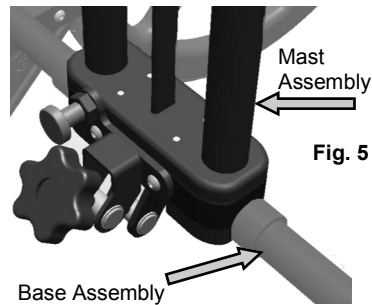

Fig. 5
- Place mast assembly over locator pins on base assembly (fig. 5). **Rotate locking pin until it engages into mast assembly.** Ensure that the mast pin is fully engaged and holding the mast firmly to the base. If the mast lifts up from the base, twist the retaining pin again until it snaps into the mast.